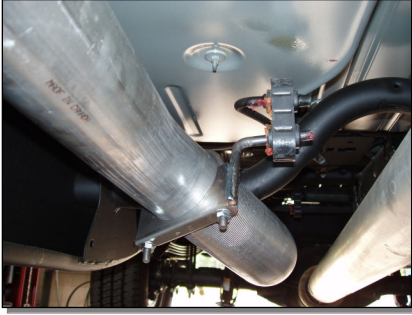

Figure 4
3. Position **Extension Pipe** as shown and loosely install the **Hanger Clamp** with the shortest hanger. Refer to Figure 4. This will support the **Extension Pipe** during the **Muffler** installation.